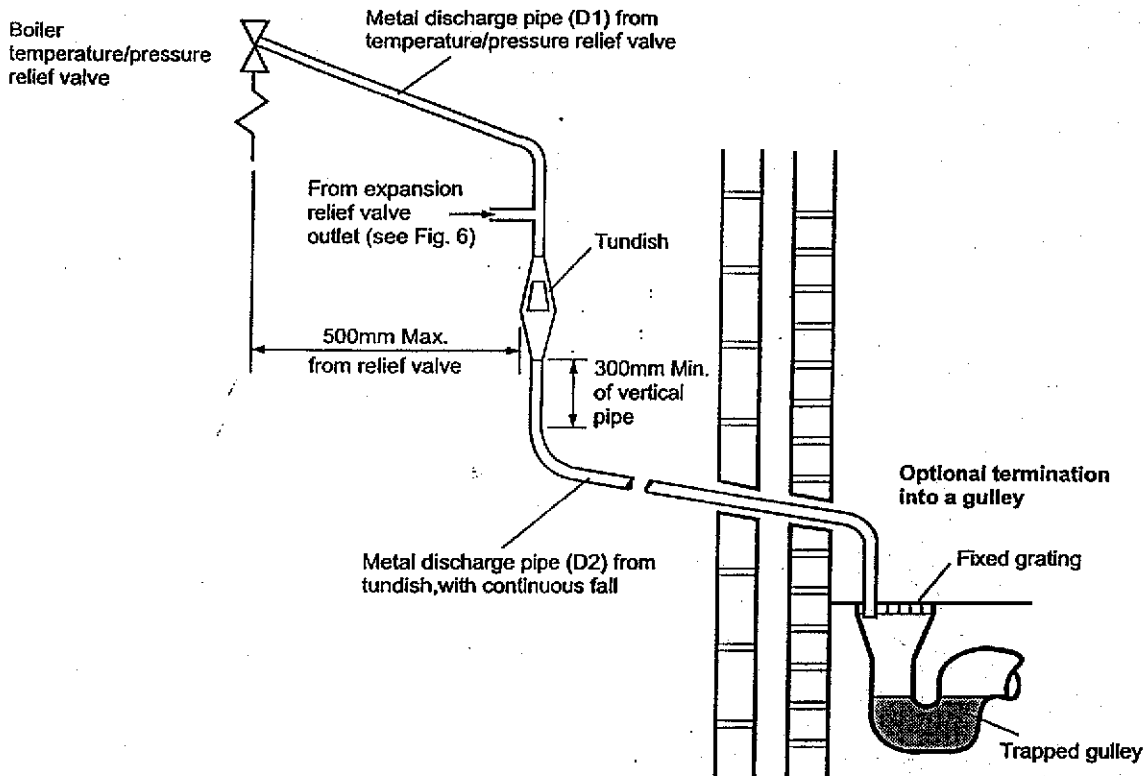

Fig. 7
The pipes discharging from both the expansion relief and temperature/pressure relief valves must be 15 mm diameter and must be connected to the tundish supplied. Both pipes should be connected together before joining to the tundish in 15 mm pipe. The discharge pipe from the tundish must be at least 22 mm pipe. Refer to the following table and Fig. 7.
Sizing of copper discharge pipe 'D2' - see Fig. 7
- 4 Connect the temperature/pressure relief valve and expansion relief valve discharge pipes to the tundish as described in section 2.13 and shown in Fig. 7.